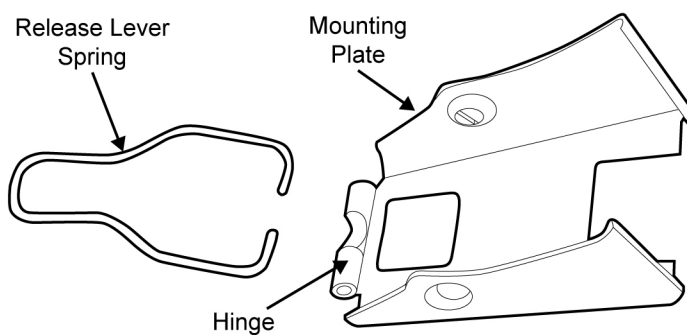

Figure 40. Removing the Release Lever Spring from the Mounting Plate.
- d. Remove the release lever spring by pulling its ends out of the hinge of the mounting plate. Refer to Figure 40.